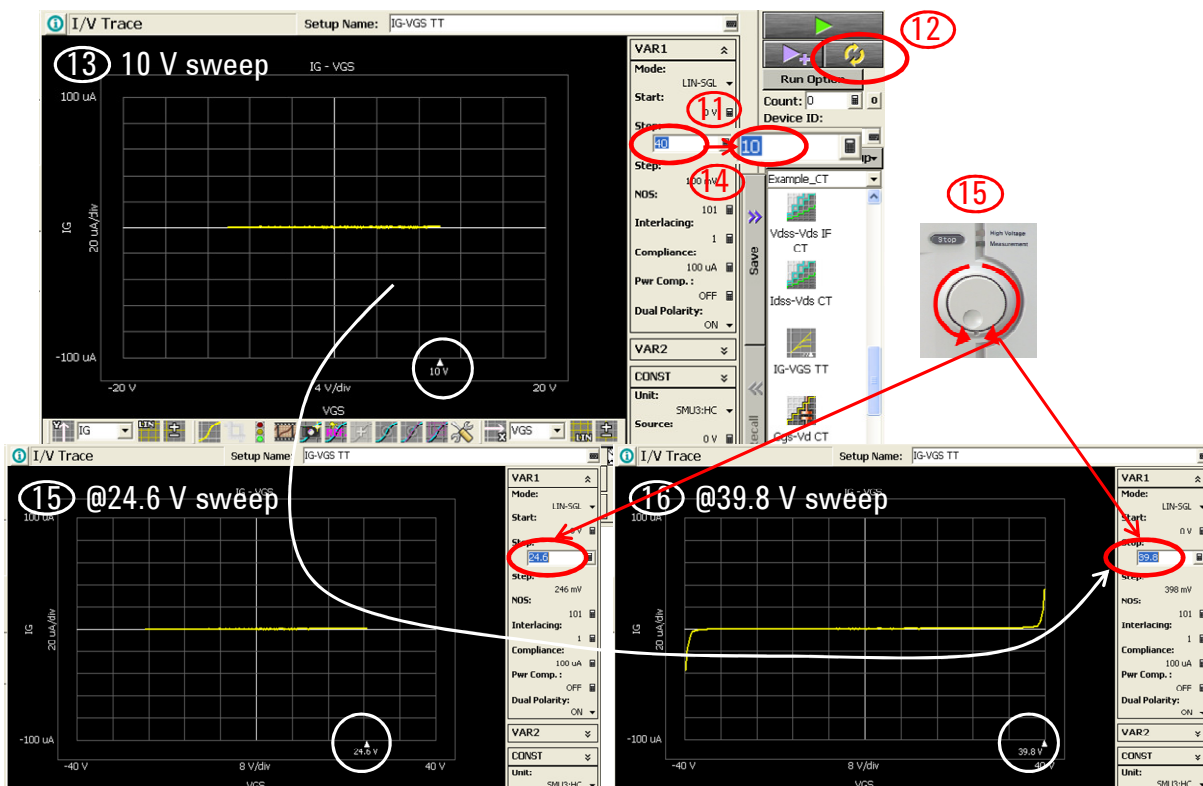

Figure 3-39. IG-VGS TT Tracer Test: Interactive sweep control.
You can control the sweep by manually by following the following steps; (See figure 3-39)
Step 13. The graph sweeps to +10 V marked "step 13" in figure 3-39 (top left) is shown.